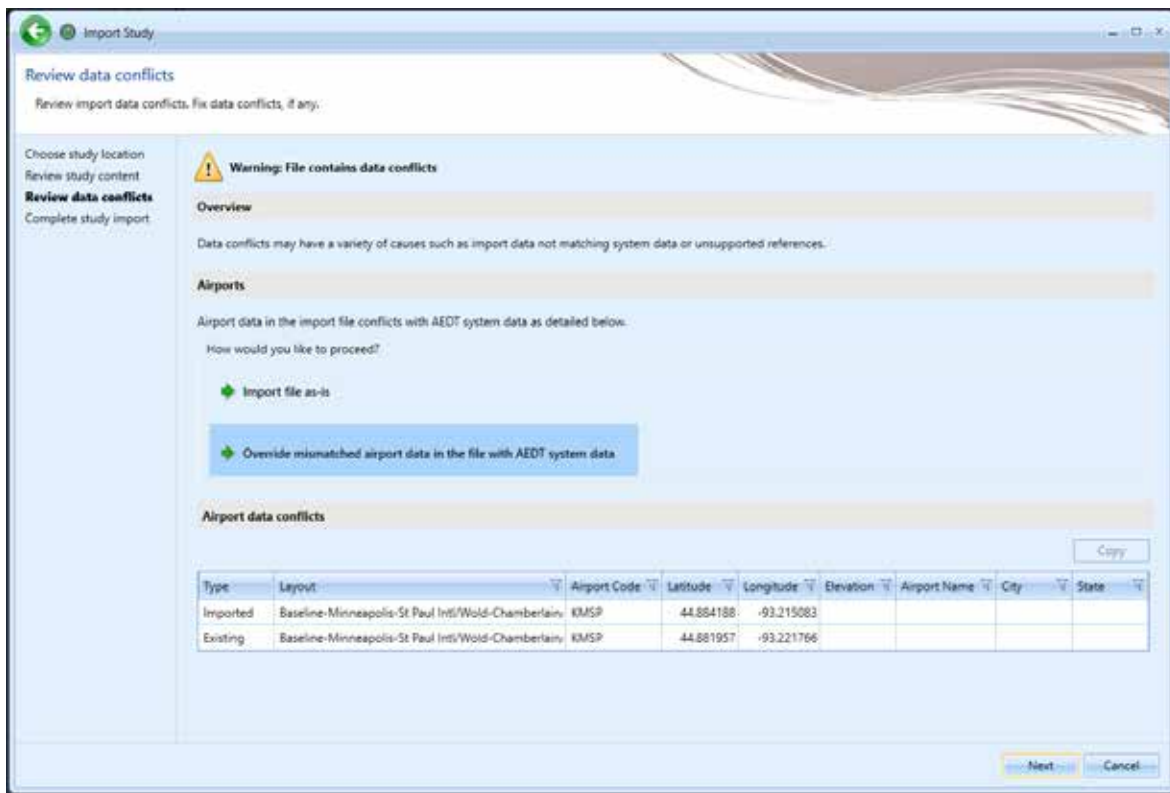

Figure 45. Review data conflicts
5. The *Review data conflicts* step displays any conflicts between study airport data and AEDT airport data. (Figure 45) (Note: Latitude/Longitude/Altitude mismatches between EDMS and